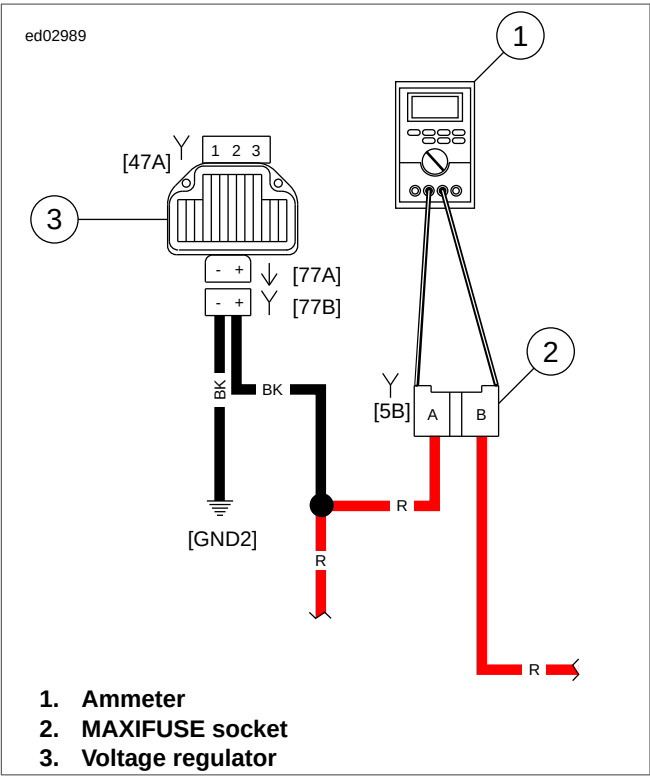

Figure 1-13. Milliampere Draw Test (Ignition Turned to OFF)
2. See Figure 1-13. Using HARNESS CONNECTOR TEST KIT (Part No. HD-41404-B) red male socket probes and patch cords, connect ammeter to MAXIFUSE socket terminals. With this arrangement, you will also pick up any regulator drain.